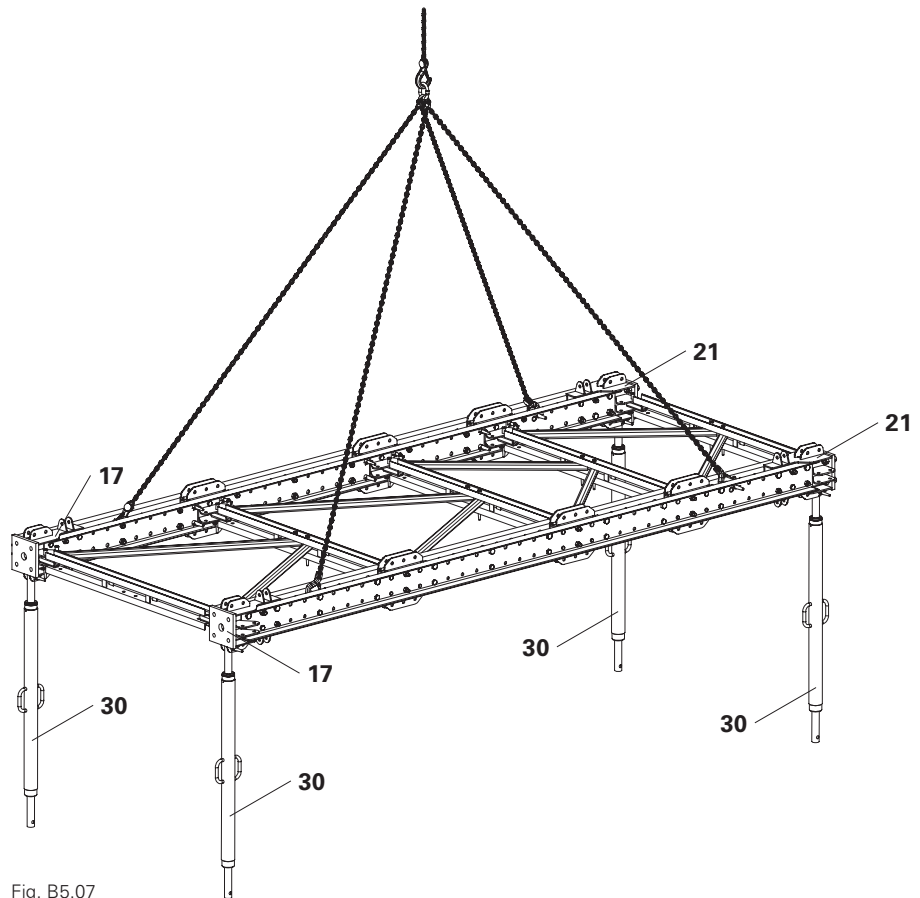

Fig. B5.07
2. Connect 2x heavy-duty spindles SLS (30) each to the prop bases VST 48 (17) and prop connectors VST 48 (21) by means of 1x fitting pin  $\varnothing$  21 mm (9) each.(Fig. B5.07)